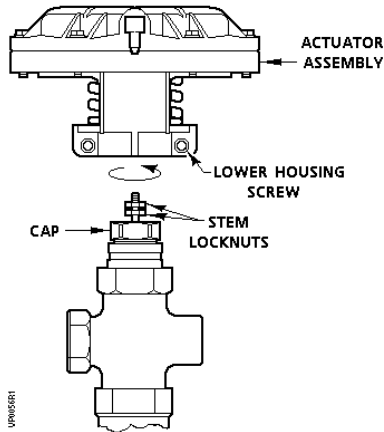

Figure 1. Removing the Actuator Assembly.
1. With a screwdriver or a 1/4-inch (6 mm) nut driver, loosen the two #8-16 lower housing screws that clamp the actuator to the bonnet. See Figure 1.